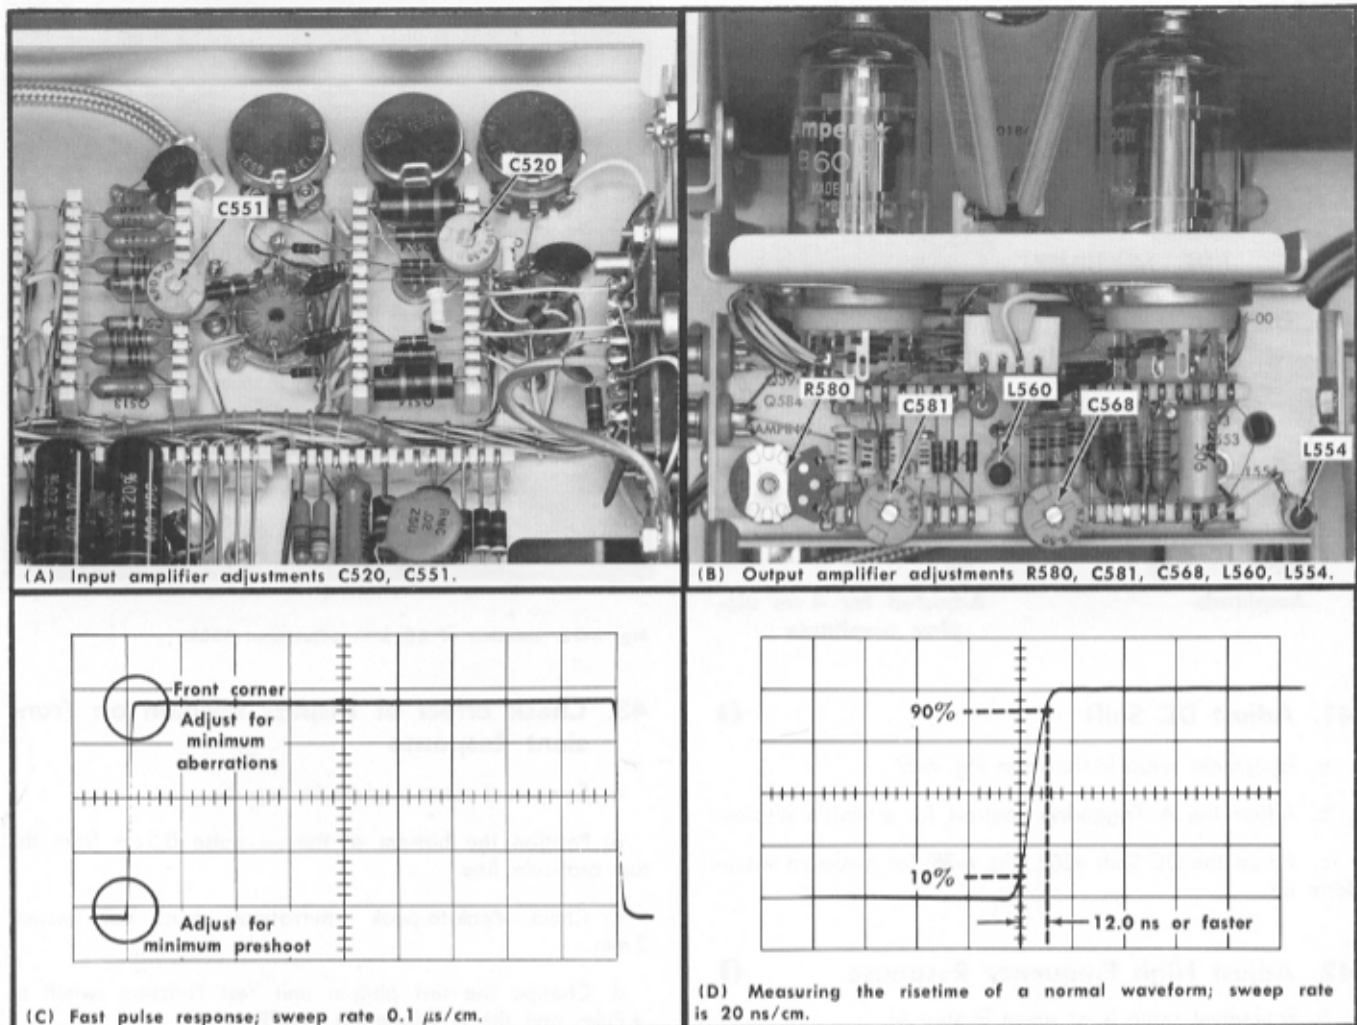

Fig. 6-39. Vertical amplifier compensation checks and adjustments.
- c. Adjust for optimum high frequency response as follows: (Fig. 6-39).